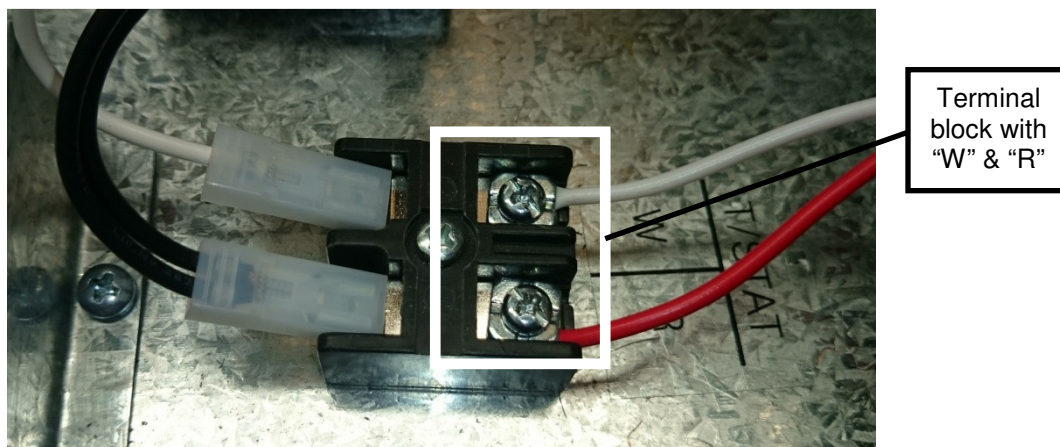

Figure 1
- 1.1 Connect red and white wires from 539 Interface Module to “W” and “R” terminal of the heater. Connection is polarity insensitive. See **Figure 1**